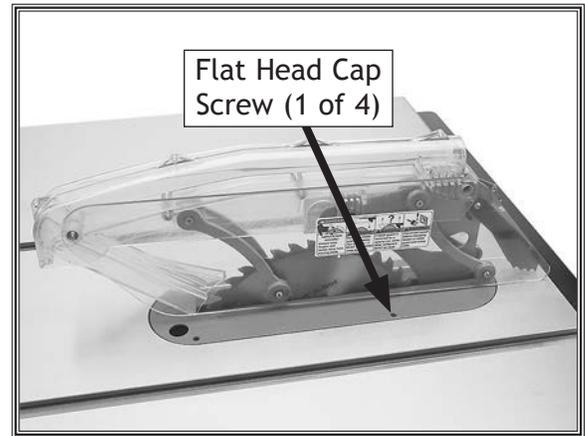

Figure 52. Blade guard installed.
The blade guard, when properly installed, should be set up similarly to **Figure 52**. It should pivot freely up and down and return to the table in the resting position. It should also swing up high enough to accommodate the workpiece.
6. Adjust flat head cap screws (see **Figure 52**) to make sure table insert is flush with table (use a straightedge as a guide).